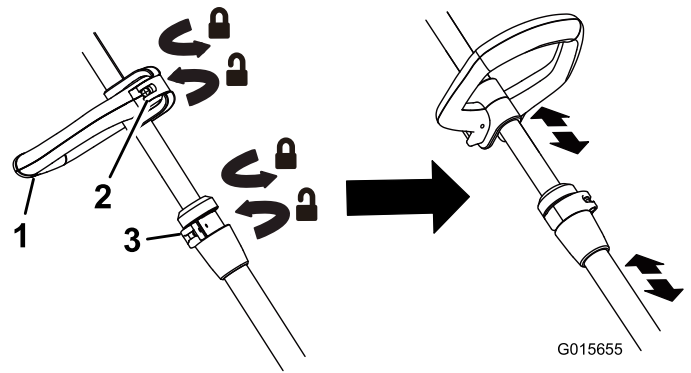

Figure 4
- To adjust the trimmer height, open the height adjustment latch, then slide the shaft up or down to desired height, securing it in place with the latch (Figure 4).
- To adjust the auxiliary handle height, release the auxiliary handle latch, slide the auxiliary handle up or down to the desired height, then secure the auxiliary handle in place by closing the auxiliary latch (Figure 4).